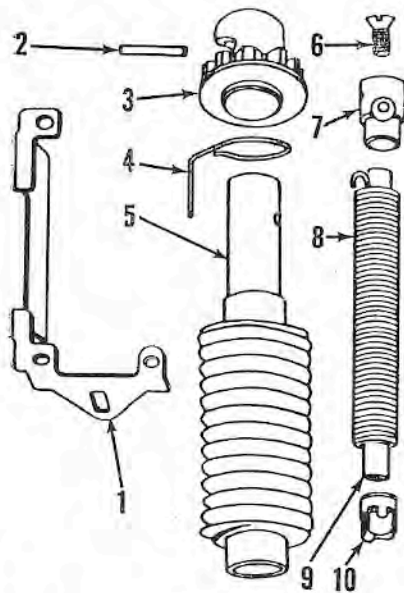
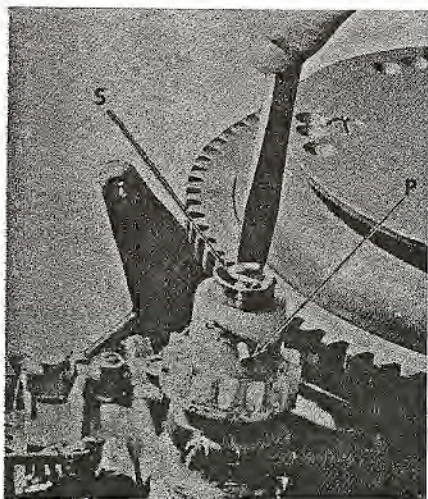

Fig. WB19—Exploded view of recoil starter of the type used.
Fig. WB20—To disassemble the starter, first remove lock screw (S) and install the special tool before attempting to remove drive pin (P). Refer to text.
Fig. WB19 shows an exploded view of the recoil starter assembly. Starter pinion (3) engages a starter ring gear on the fly-wheel (See Fig. WB20).
To disassemble the starter assembly, first remove the engine cover, then remove screw (S—Fig. WB20). NOTE: This screw locks pin (P) in place in starter shaft. Thread the special "T" handle tool (West Bend, T3139) in threaded hole from which screw (S) was removed. Tighten the tool until it bottoms. Turn tool handle slightly counter-clockwise to relieve spring tension; then carefully push the pin (P) out of pinion and starter spool. Allow the tool and starter drive (7—Fig. WB19) to turn clockwise until recoil spring (8) is unwound; then use the